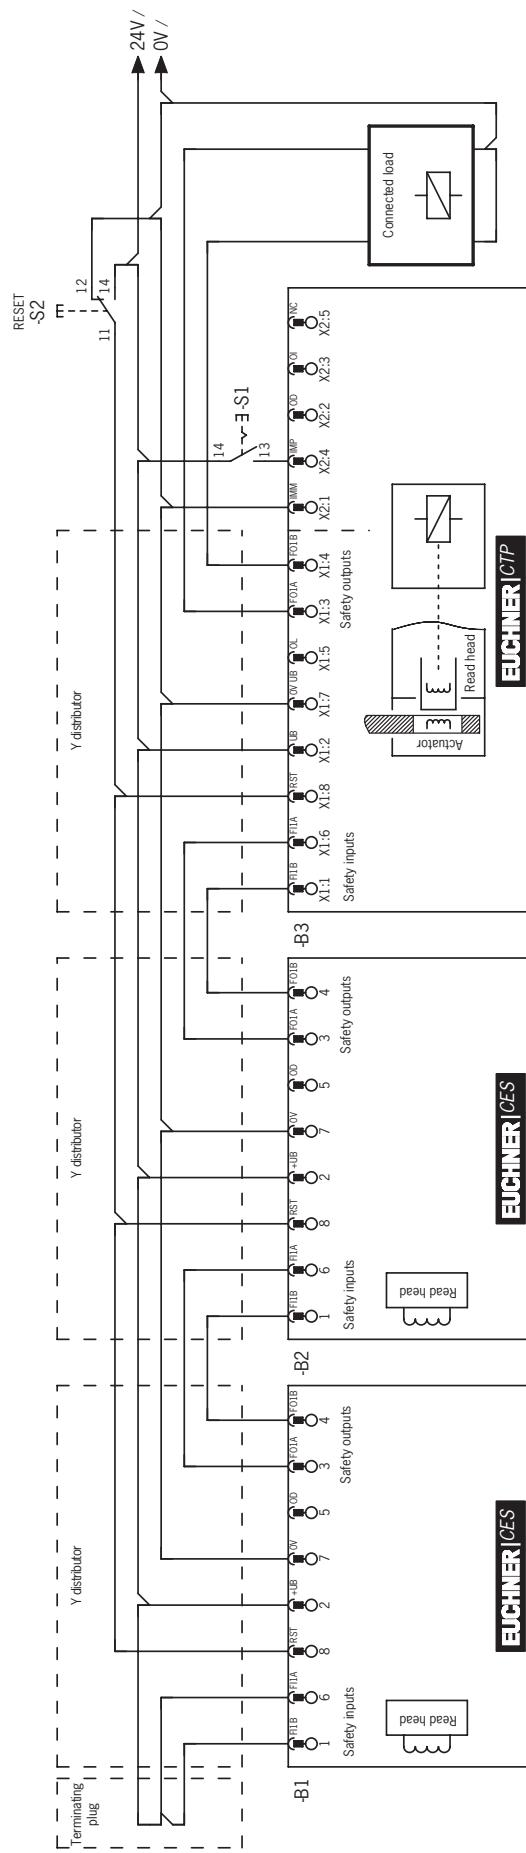

Figure 5: Connection example for operation in a CES-AR switch chain
- A common signal must be used for all switches in the chain. This can be a changeover switch or the output of a control system. A pushbutton is not suitable, because Reset must always be connected to GND during operation (see switch S11 in *Figure 5 on page 25*).
Input RST must be connected as shown in *Figure 5 on page 25* to permit this.